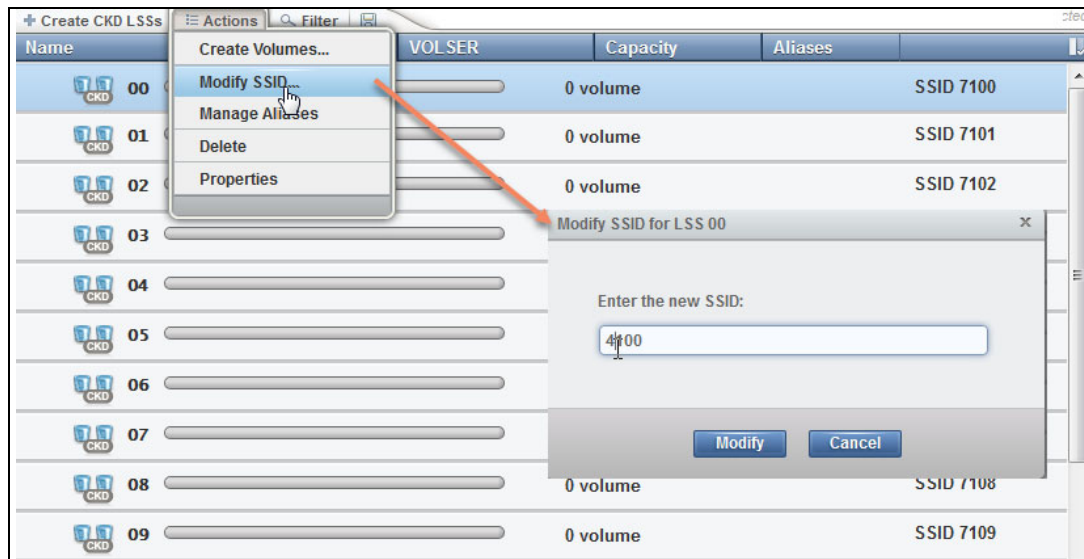

Figure 11-93 Modify the CKD LSS SSID
5. The unique SSID for each LSS is automatically determined by combining the SSID prefix with the ID of the LSS. The SSID can be modified if needed as shown in Figure 11-93.